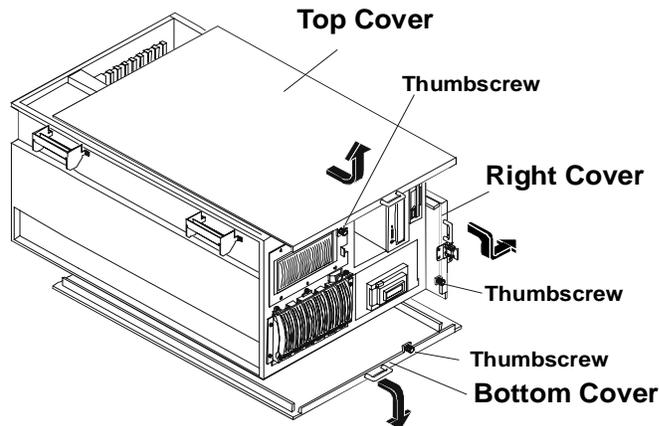

Figure 3-6. HP NetServer LH 6000r Covers
- Remove the top cover by loosening the thumbscrew and pulling the cover forward to disengage it. Lift it up and away from the chassis (see Figure 3-6).
- Remove the right cover by supporting it with your hand, then loosening the thumbscrew and pulling the cover forward, then down to disengage it. Lift it away from the chassis (see Figure 3-6).
- Remove the bottom cover by supporting it with your hand, and loosening the thumbscrew with the other hand. Pull the cover forward to disengage it and catch it as it falls away from the chassis (see Figure 3-6).